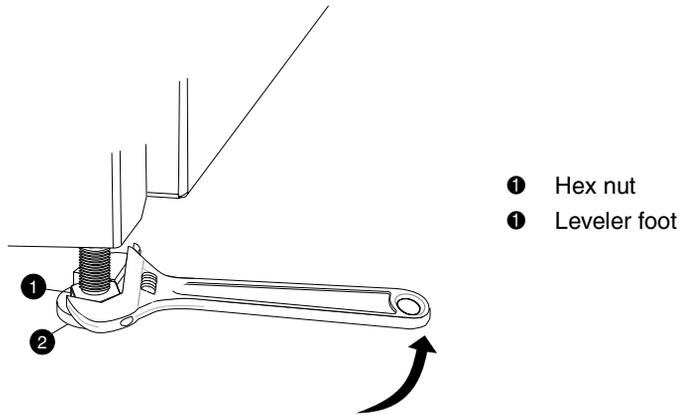

Figure 4–35: Raising a leveler foot
3. Carefully move the rack to the installation area and position it to provide the necessary service areas (see Figure 4–34).